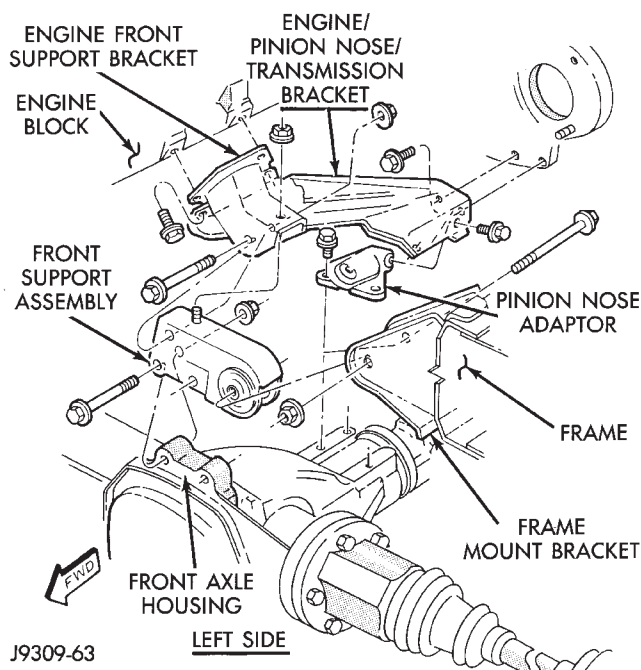
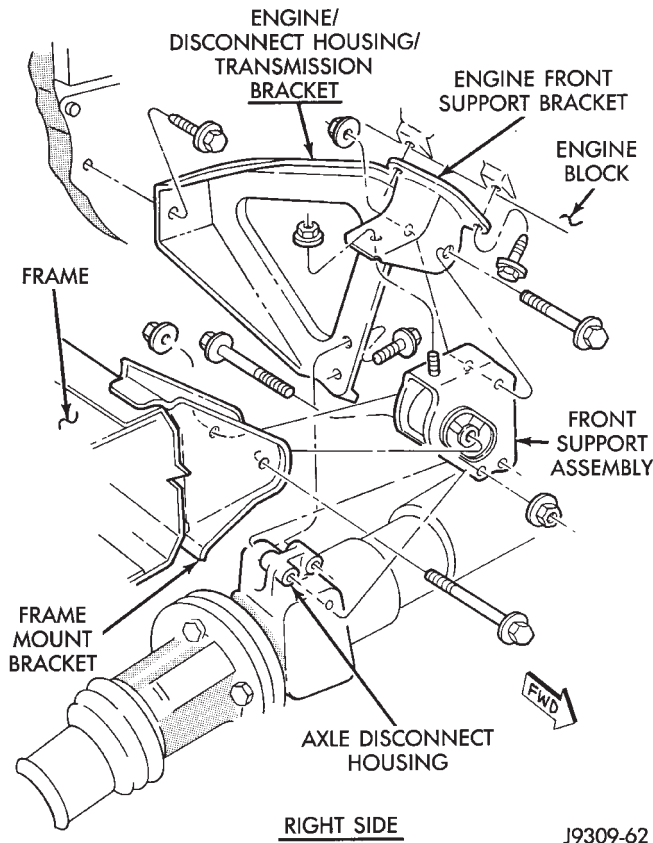

Fig. 18 Engine and Axle Front Support—4WD Vehicles
Fig. 19 Engine and Axle Front Support—4WD Vehicles
- (3) Install engine lifting fixture.
- (4) Raise vehicle on hoist.
- (5) Install front axle support fixture.
(6) On the **LEFT SIDE**, remove the bolt that attaches the engine, pinion nose, transmission bracket and the engine front support bracket to the engine block (Fig. 18). On the **RIGHT SIDE**, remove the bolt that attaches the engine, disconnect housing, transmission bracket and the engine front support bracket to the engine block (Fig. 19).
(7) Remove the thru-bolt and nut from the front support assembly and the engine front support bracket. Remove the stud nut and washer assembly attaching front support assembly to the engine front support bracket (Fig. 18) (Fig. 19).
(8) Remove thru-bolts attaching front support assembly to front axle housing (Fig. 18) or axle disconnect housing (Fig. 19).
(9) Remove front support assembly to frame mount bracket thru-bolt. Raise engine slightly to clear front support assembly stud (Fig. 18) (Fig. 19). Remove the front support assembly.
(1) Position front support assembly in frame mount bracket and align with axle housing (left side) attaching points or axle disconnect housing (right side). Install the thru-bolts (Fig. 18) (Fig. 19). Tighten the nuts to 102 N·m (75 ft. lbs.) torque.
(2) Lower engine while guiding engine front support bracket onto front support assembly stud. Install stud nut and thru-bolt (Fig. 18) (Fig. 19). Tighten
(3) On the **LEFT SIDE**, position the bolt that attaches the engine, pinion nose, transmission bracket and the engine front support bracket to the engine block (Fig. 18). On the **RIGHT SIDE**, position the bolt that attaches the engine, disconnect housing, transmission bracket and the engine front support bracket to the engine block (Fig. 19). Tighten the bolts to 41 N·m (30 ft. lbs.) torque.
- (4) Remove the front axle support fixture.
- (5) Lower the vehicle.
- (6) Remove engine lifting fixture.
- (7) Connect the negative cable to the battery.